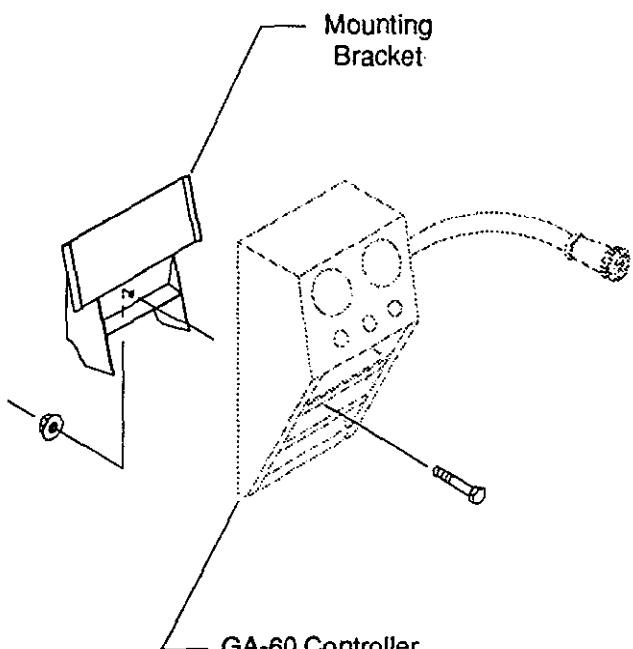

Figure 1
## MOUNT GA-60 CONTROLLER (Fig. 1 &amp; 2)
1. Mount the GA-60 controller to the mounting bracket using (1) 3/8" x 1-1/2" bolt and flanged lock nut. (See Fig. 1)